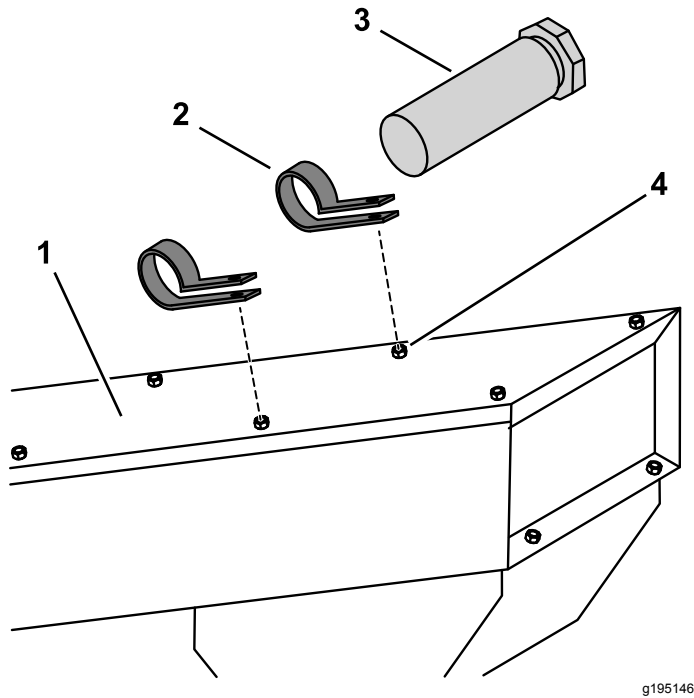

Figure 11
1. Remove and set aside the existing hardware on the core-harvester elevator shown in Figure 11.
2. Use the existing hardware to loosely install the 2 R-clamps to the core-harvester elevator (Figure 11).